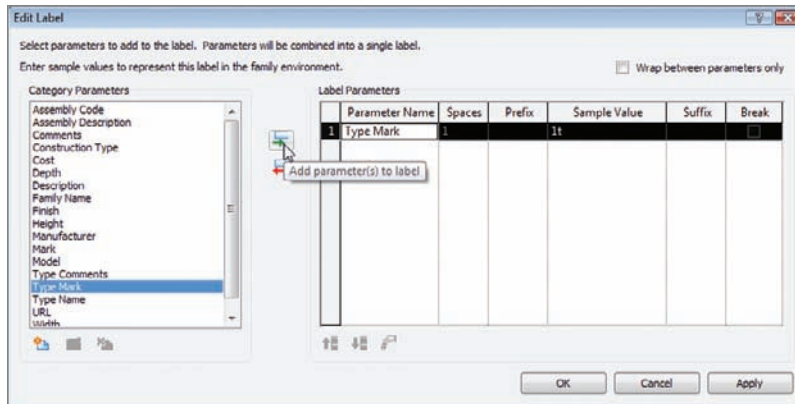

FIGURE 11.81 Adding the Type Mark parameter
11. In the middle of the Edit Label dialog is an Add Parameter(s) To Label button. Click it. The Type Mark parameter should show up in the right field, as shown in Figure 11.81.